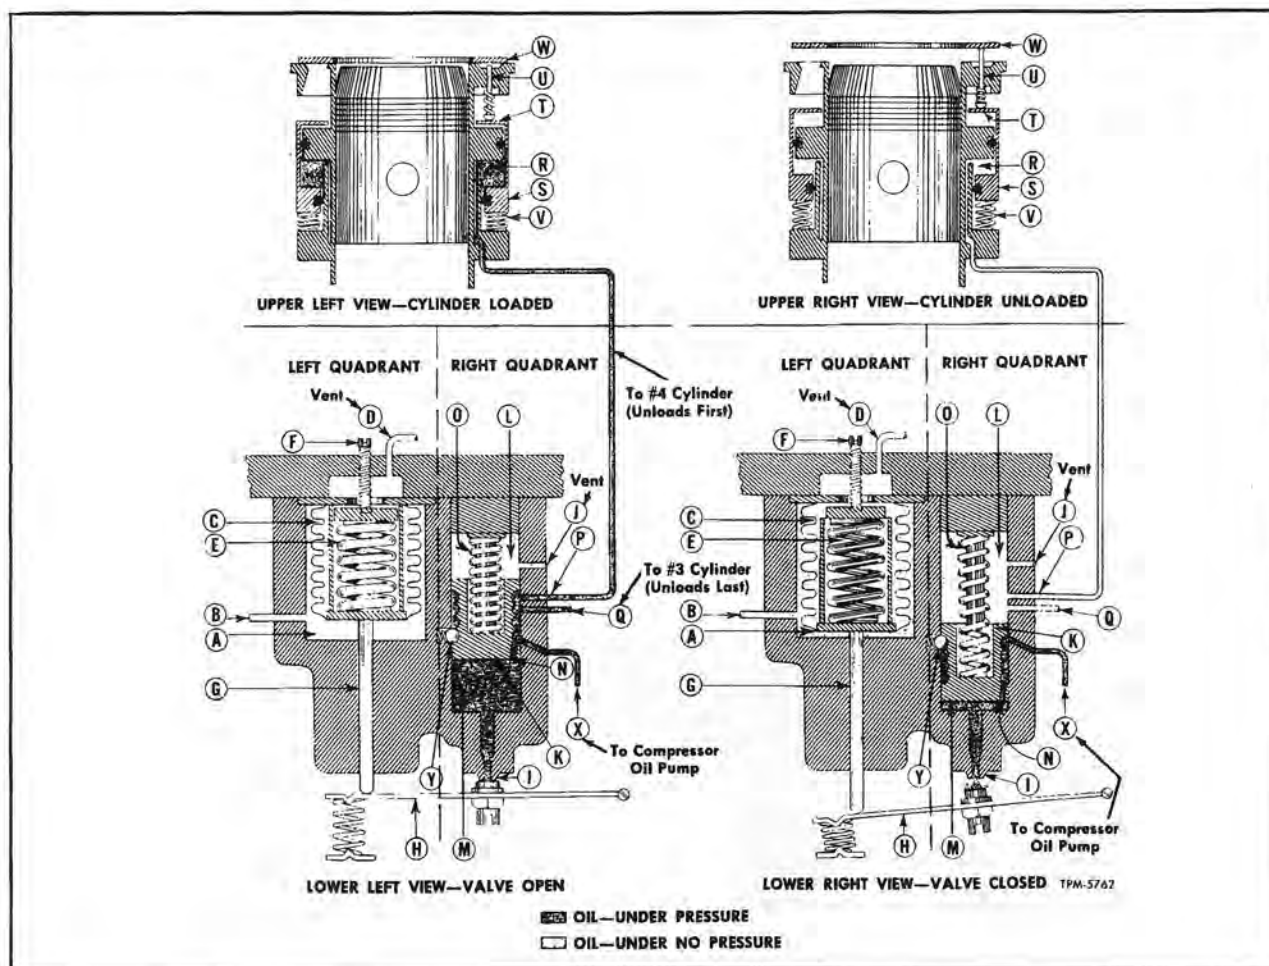

Figure 59—Compressor Capacity Control and Unloader Starting System
The cylinder unloading control mechanism consists of two distinct groups of components: The capacity control actuator and the cylinder unloader components. These two components are schematically shown in figure 59. Upper views show the cylinder unloader mechanism and the lower views show the capacity actuator components.
**Pressure Sensing Device (Refer to Left Quadrant in Lower Views on Figure 59)**
**Valving Mechanism (Refer to Right Quadrant in Lower Views on Figure 59)**
Under full capacity operation, as shown in lower left view of figure 59, regulated orifice I is shut off; oil pressure in lower chamber M increases because oil under pump pressure is being supplied through orifice N. This pressure overcomes the force of spring O and floating piston K rises in the cylinder. As it rises, the annular grooves in the floating piston coincide in sequence with lines P and Q to the cylinder unloaders, providing them with full oil pressure and permitting them to operate at full capacity.
When full compressor capacity is not required, regulated orifice I is opened through movement of lever; oil bleeds through and pressure within lower chamber approaches crankcase pressure as shown in lower right view of figure 59. Under these circumstances, the force of spring O overcomes the pressure in the lower chamber and floating piston K is moved downward so that lines P and Q become connected in sequence to crankcase pressure through orifice J. The spring-loaded detent ball Y permits the piston to move only in distinct detents; one groove at a time.
Under full capacity operation as shown in lower left view of figure 59, oil flows into annular chamber R under pressure sufficient to contract the unloader piston springs V. When oil pressure forces springs to contract, the unloader piston S moves down and take-up ring T and the suction valve lift pins U move with it. This permits the suction valve W to function normally and the cylinder operates at full capacity. When the compressor is to operate
at less than full capacity as shown in lower right view of figure 59, oil line P from the cylinder unloader mechanism is connected to crankcase pressure through orifice J which allows the pressure in the annular chamber R to dissipate; the cylinder unloader springs V expand, lifting the unloader piston S. This raises the take-up ring T, the valve lift pins U, and holds the suction valve W open so that the controlled cylinder is operating in an unloaded condition.